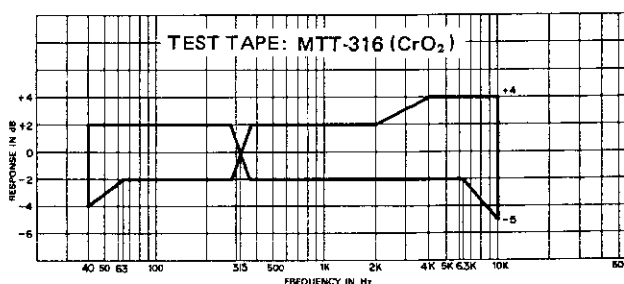

Fig. 6-6 Playback Frequency Response Limits
7. Play the 315 Hz section of the test tape to get a reference level on the AC Voltmeter. Then play the required test signals for comparison with the playback Frequency Response Limits chart. (Fig. 6-6).